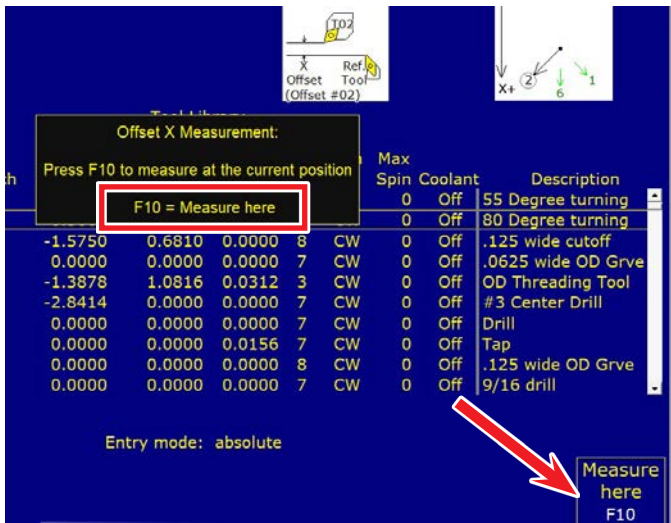

FIGURE 23
D. Click on “Measure Offset X F5”, then “Measure Here F10” (see Figure 23).